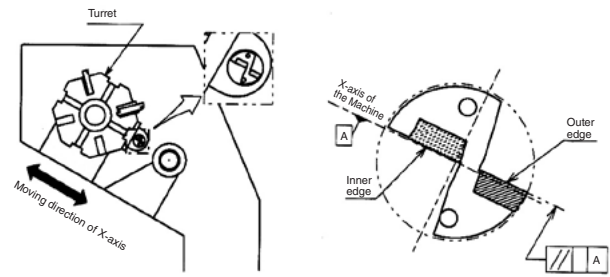
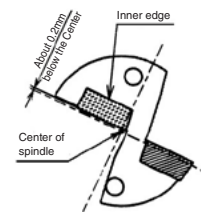

Fig.1 Installed to the Lathe
Fig.5 Front View of the Drill
- (1)Adjust the scale at the flange periphery of the sleeve to the center of the coolant plug of the drill. (Fig.1)
- (2)When making the hole diameter bigger, rotate the sleeve in (+) direction and to make it smaller, rotate the sleeve in (-) direction.
- (3)When rotating the sleeve, insert the wrench supplied with the drill into the hole on the flange periphery to rotate the sleeve.
- (4)Using the bottom screw of the side-lock arbor, firmly tighten on the drill directly through the sleeve's window.
- (2) It is recommended to set the outer insert as shown in Fig.1 with the outer insert facing the operator. (Fig.1)
When installing inner insert as shown in Fig.1, it will be set around 0.2mm below the Center of Spindle. (Fig.5)